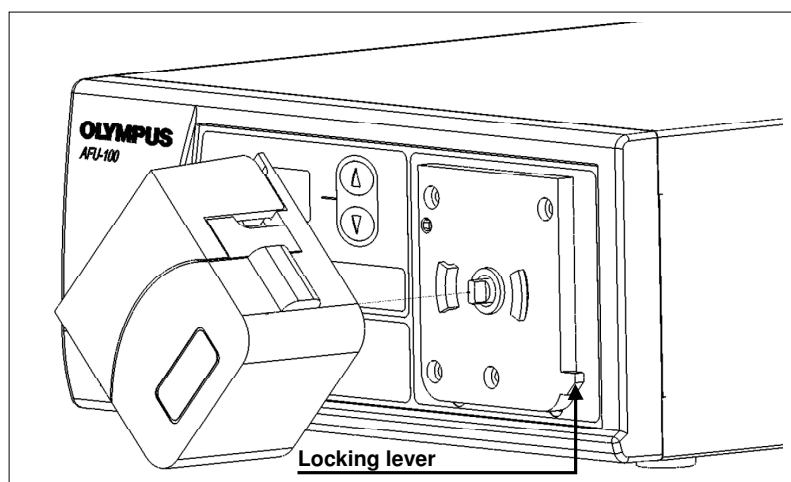

Fig. 6.1: Connection / disconnection of pump head
- 1) Engage the pump head drive slot with the end of the pump drive shaft (approximately 45° position, see fig. 6.1). Continue to align the pump head until the bayonet engages with the mounting plate. Ensure that the arrow on the front of the pump head is pointing to the left side.
- 1) Push the locking lever (see fig. 6.1) back and turn the pump head counterclockwise until it is free from the mounting plate.